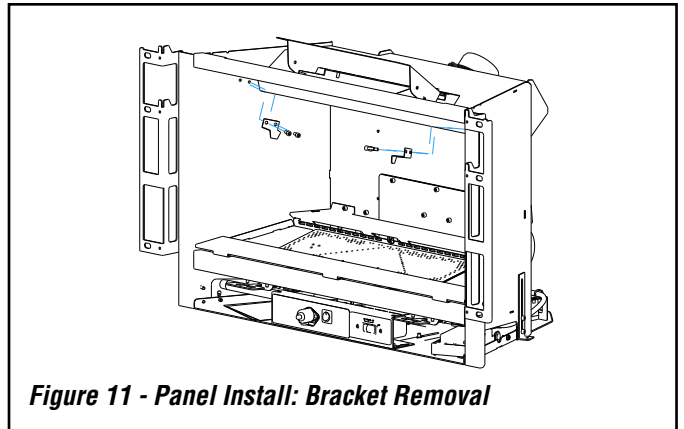

Figure 11 - Panel Install: Bracket Removal
2. Remove the two brackets from the firebox using a 5/32" allen wrench (*see Figure 11*). Retain the screws for step 4, and discard the brackets as they will not be needed.